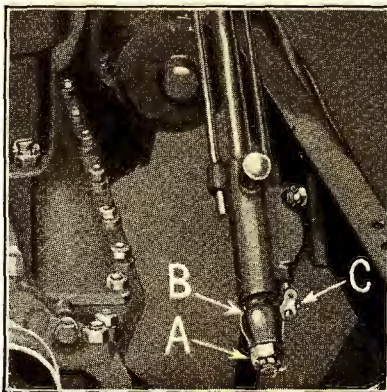
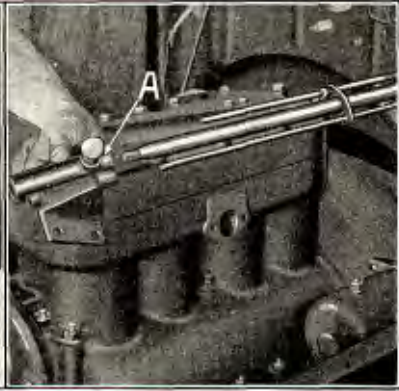

Fig. 33
Fig. 36
- (a) Run off nut on end of steering post (See "A" Fig. 33) and remove ball arm "B" from end of post by tapping it with a brass or lead hammer. The steering gear ball arm key can then be removed by tapping it out of keyway with a hammer and drift.
- (e) Drive out the lead rod lever pin (See "C" Fig. 33), and slip lever and bracket off end of steering gear shaft (See "A" Fig. 36).